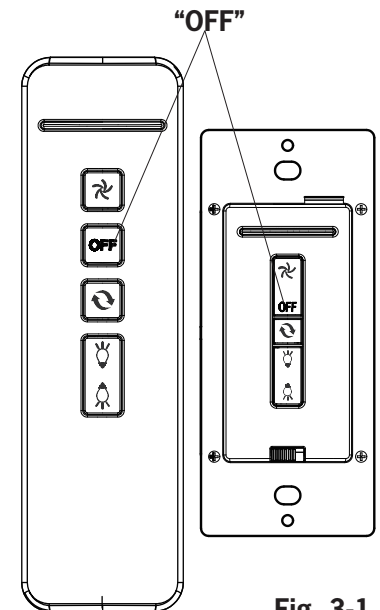

Fig. 3-1
2. **Learn function setting**, Restore power source to your fan, press and hold the "OFF" button for at least 4 seconds. You must press the 'OFF' button within 60 seconds of restoring power to the fan. (Fig. 3-1)